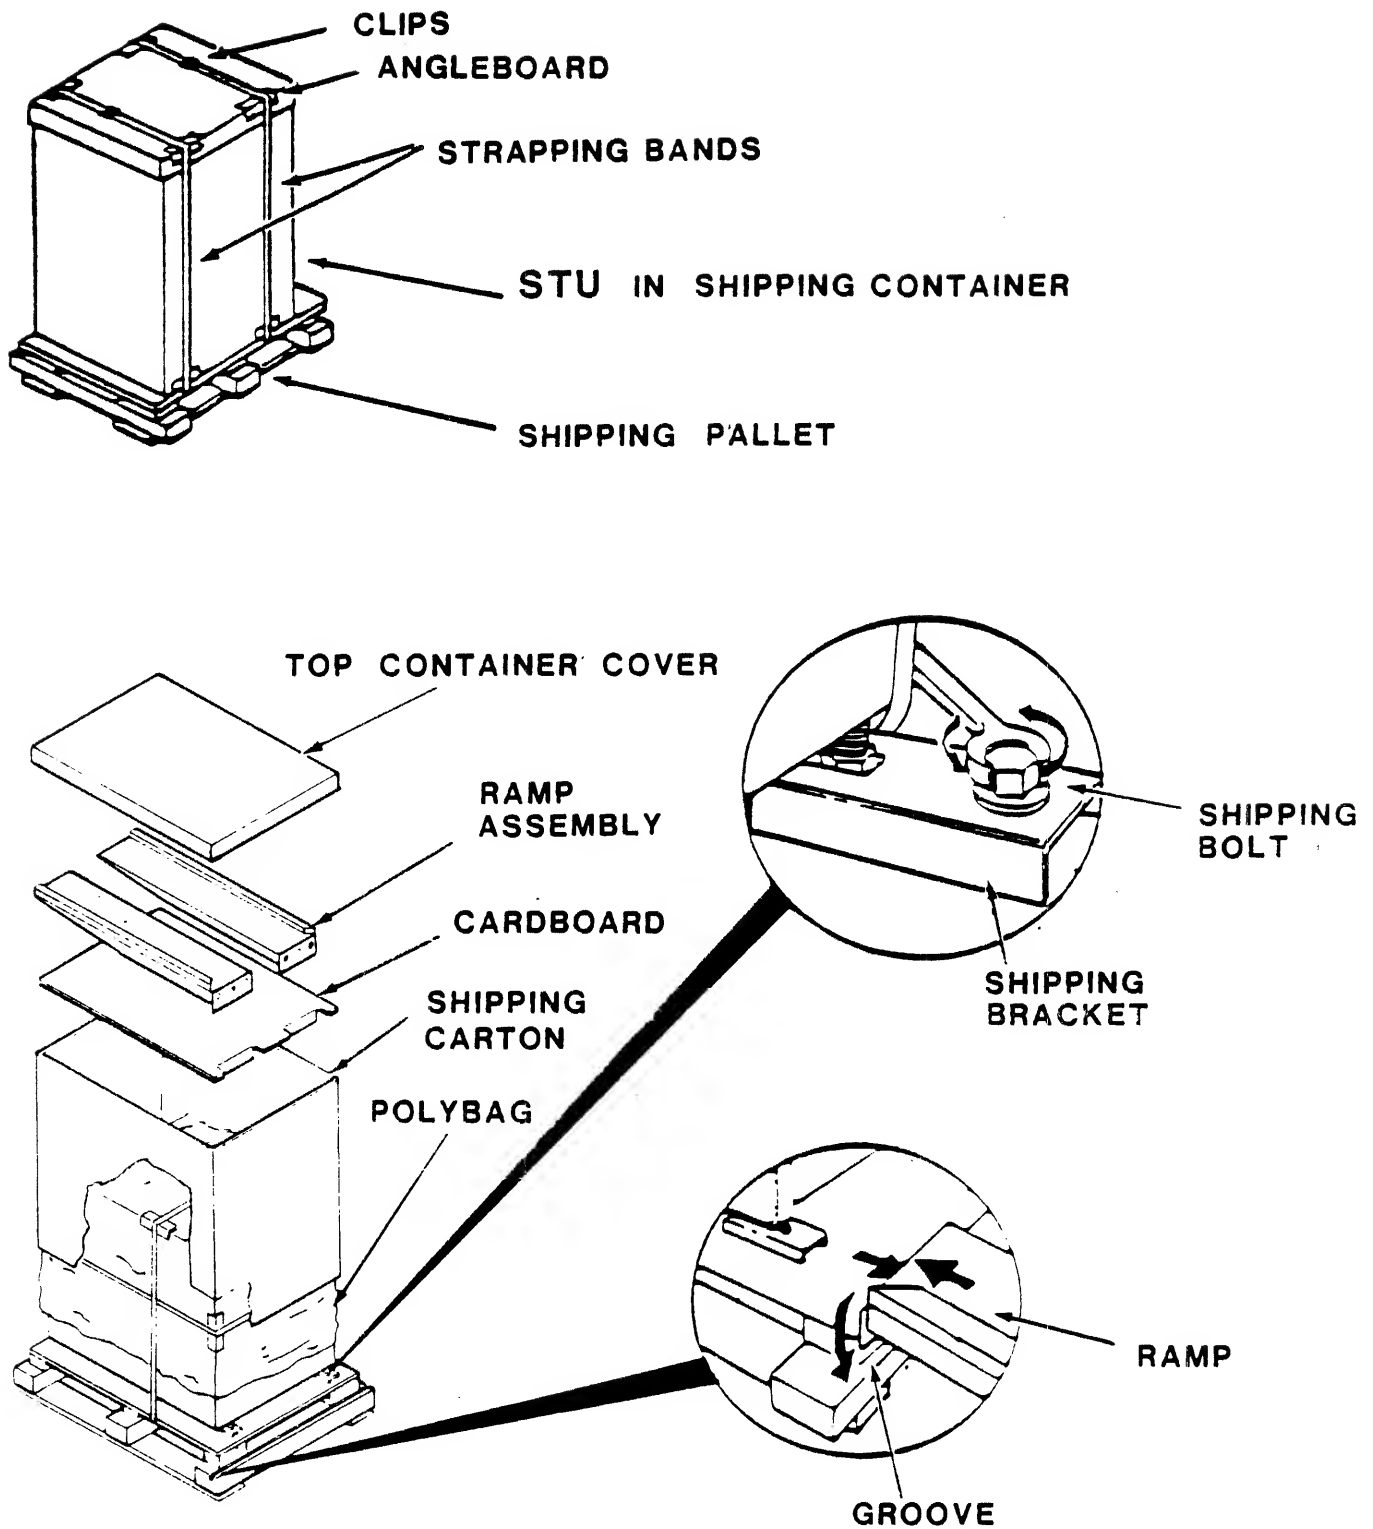

Figure 3-17. In Cabinet STU Unpacking
2. All shipping materials should be retained in case of future unit reshipment (steps 3 thru 13 may be referenced to Figure 3-17).
The following procedures may be referenced to Figures 3-17 and 3-21.